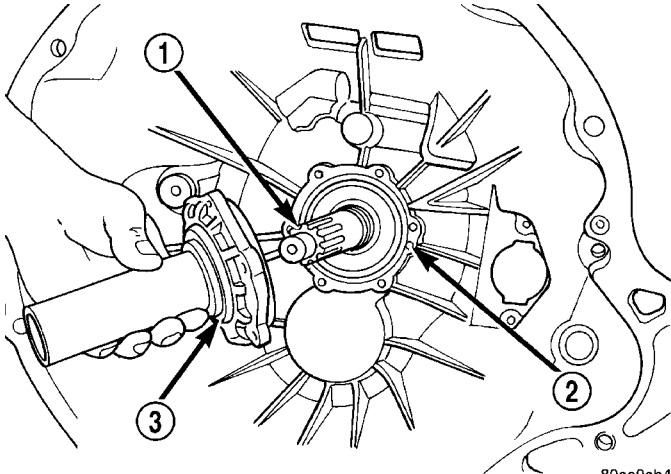

Fig. 126 INPUT SHAFT BEARING RETAINER
(21) Align and install front bearing retainer over input shaft and onto housing mounting surface (Fig. 126). Although retainer is one-way fit on housing, be sure bolt holes are aligned before seating retainer.